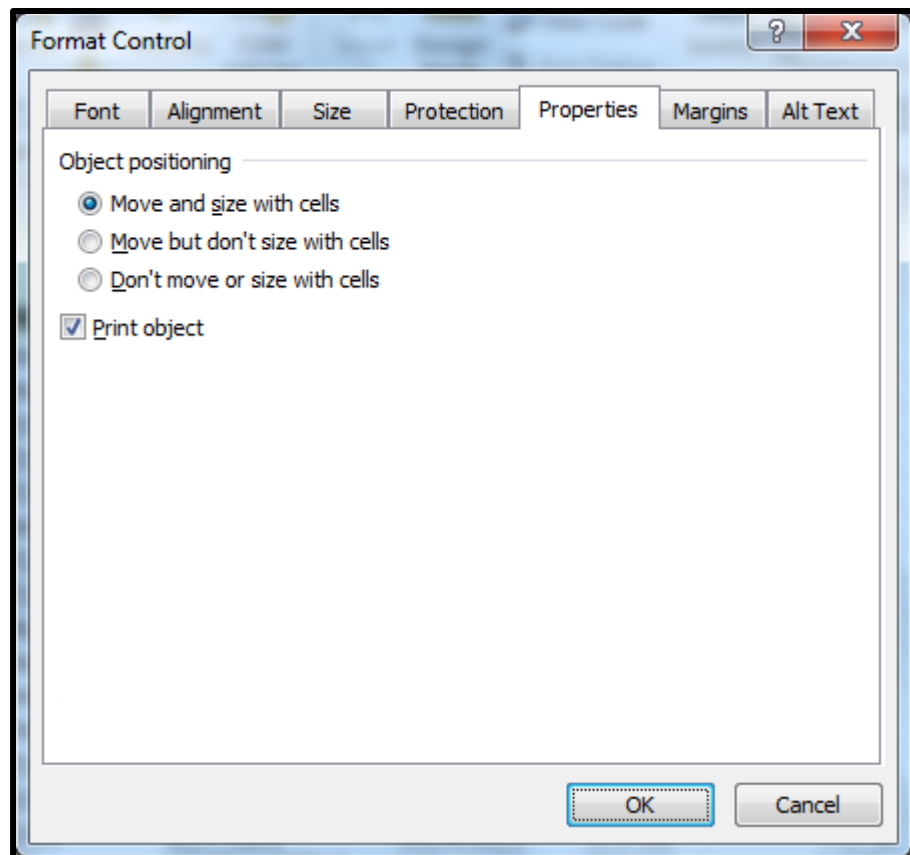

Figure 18 - Print Object
- Select the **Properties** tab and check the box **Print Object**, **OK**. See Figure 18